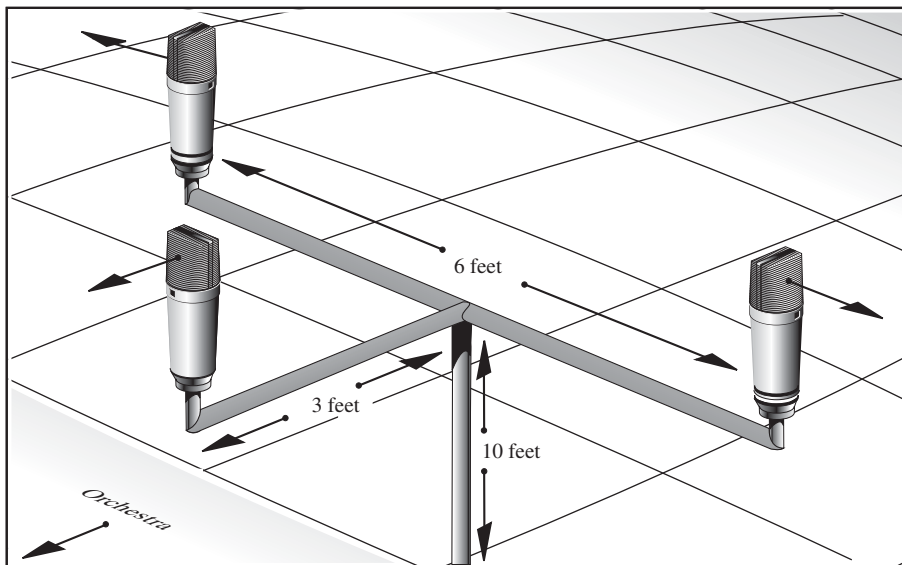

FIGURE 3.15
• **Decca records.** The decca tree setup, used for larger situations, uses a three-microphone array (Figure 3.15). All three are set in an omnidirectional pattern, then placed left, center, and right a few feet behind and about 10